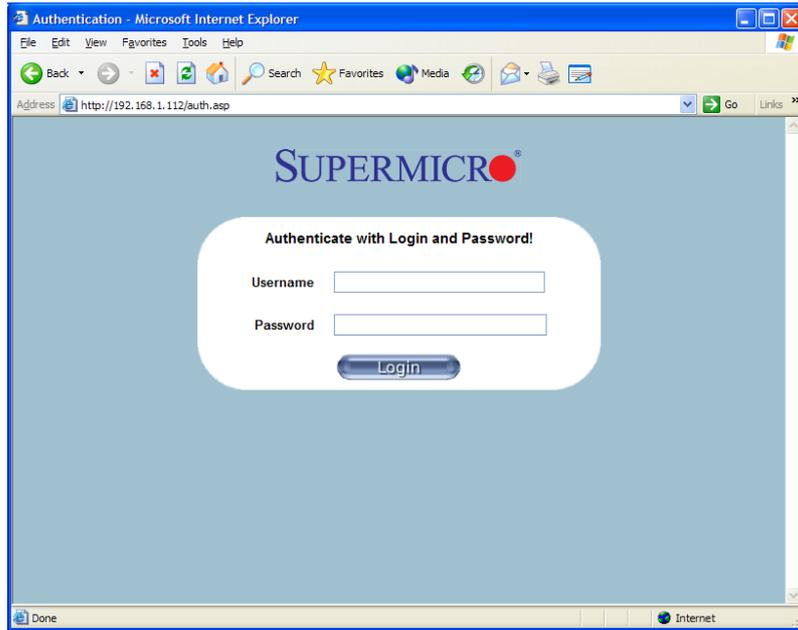

Figure 2-28. CMM Web Management Interface
2. **Web Management:** Click to open a browser that is linked to the CMM web interface, as shown in Figure 2-28.